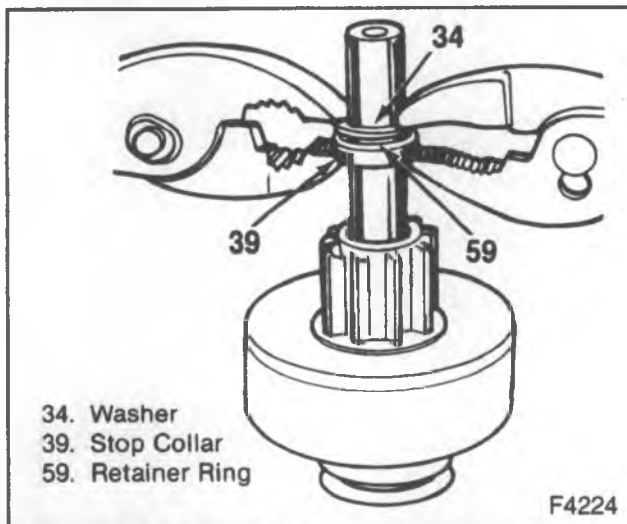

Figure 17—Forcing the Collar over the Retainer Ring
6. Stop collar with the retainer ring (figure 17).
7. Thrust collar (39) or pinion stop washer (34) with the flat side away from the pinion.
8. Brake washer (34) on the commutator end of the armature shaft (SD-300).
9. Solenoid (3) and the solenoid return spring (5) with the drive end housing (31).